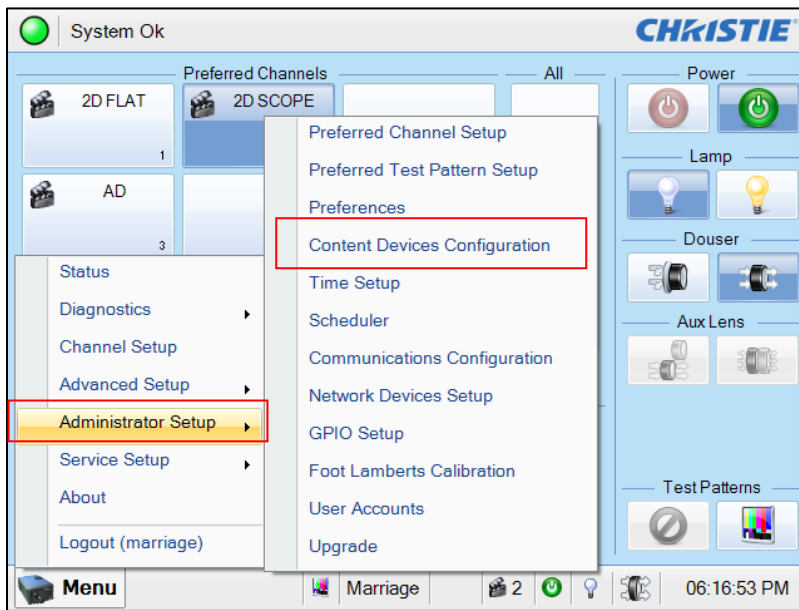

Figure 24: Content Devices Configuration
4. Select **[Menu] → [Administrator Setup] → [Content Devices Configuration]** (as shown in **Figure 24**).